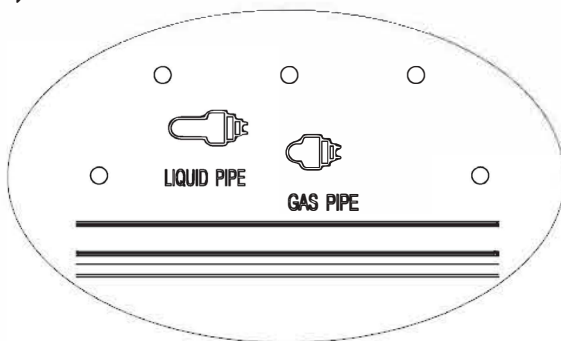
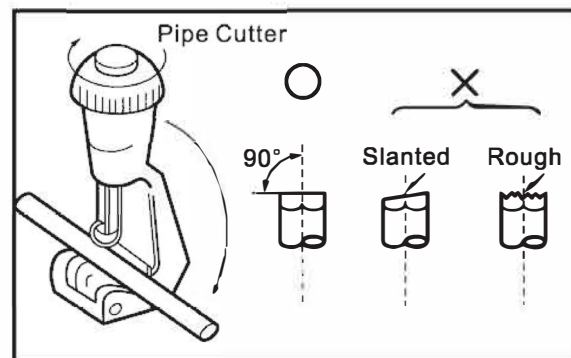

Fig.C.6.2
Fig.C.6.3
- 1 Cut the liquid pipe and gas pipe to the right length according to the position mark on the wall mounting plate (Fig. C.6.2). Ensure that the cut is flat (Fig. C.6.3).